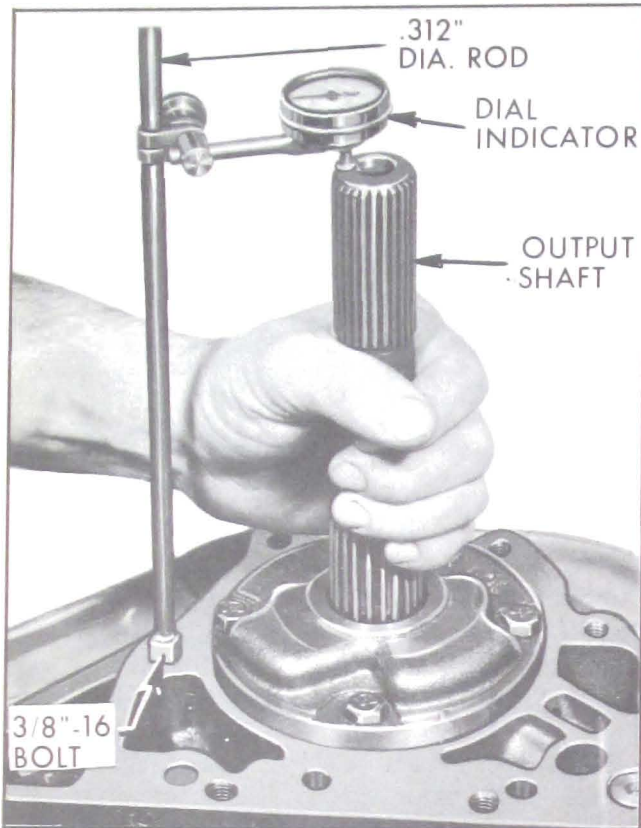

Figure 5-119—Checking Output Shaft End Play Inside Case
7. Assemble a suitable dial indicator support to the transmission case. A $3/8$ " - 16 bolt with a $.312$ " rod welded to the head makes an excellent arrangement. Assemble dial indicator to rod so plunger bears on end of output shaft. See Figure 5-119.